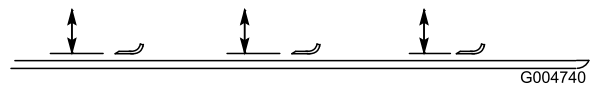

Figure 81
- Rotate the blade until the ends face forward and backward (Figure 81). Measure from the inside of the cutting unit to the cutting edge at the front of the blade. Remember this dimension.